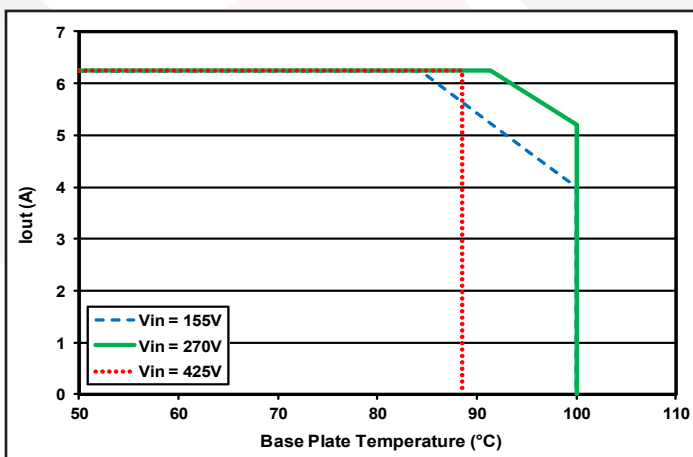

Figure 5: Maximum output current vs. base plate temperature.
**Thermal Considerations:** The maximum operating base-plate temperature,  $T_{Bp}$ , is 100 °C. Refer to the thermal derating curve, Figure 5, to see the available output current at baseplate temperatures below 100 °C.